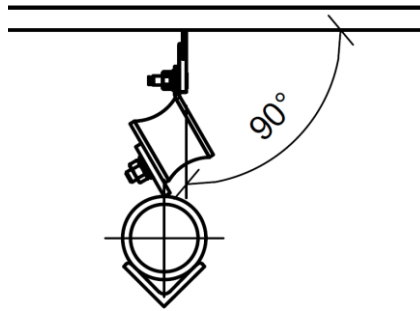

Figure 23 – Blade Alignment
2. Rotate the pole and/or adjust the clamp blocks up or down as required until the tips are perpendicular to the belt, as shown in Figure 23.